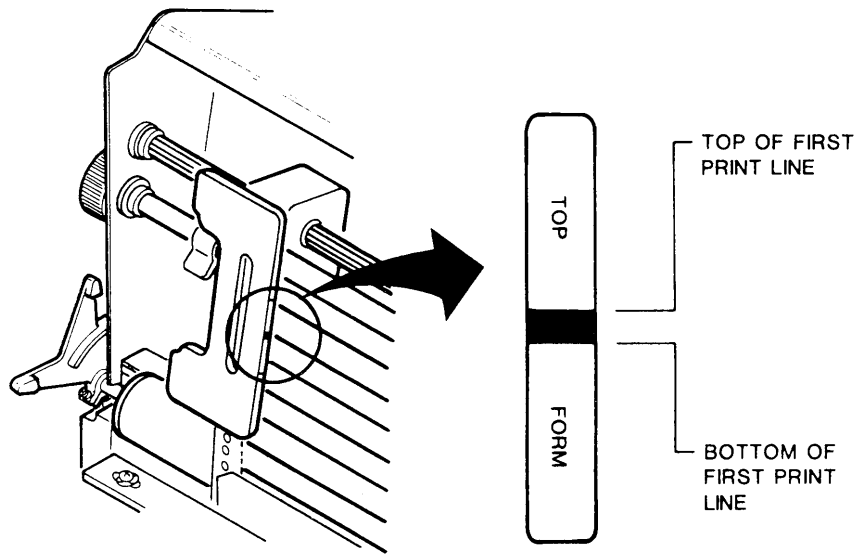

Figure 2-3. Setting Top-of-Form
3. Rotate the Vertical Position Knob to align the first line to be printed with the top-of-form alignment indicator on the left tractor gate (Figure 2-3).